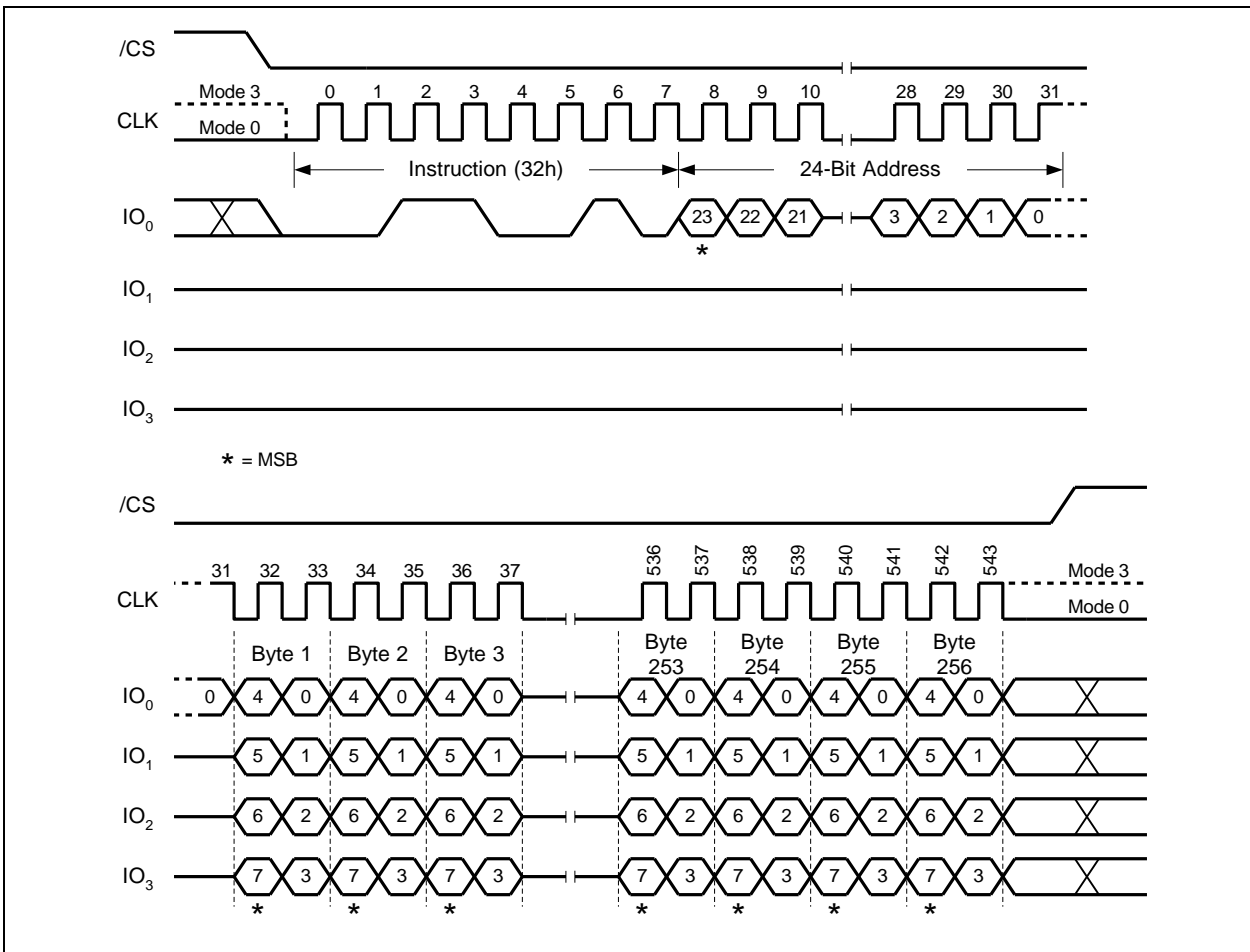

Figure 32. Quad Input Page Program Instruction (SPI Mode only)
To use Quad Page Program the Quad Enable (QE) bit in Status Register-2 must be set to 1. A Write Enable instruction must be executed before the device will accept the Quad Page Program instruction (Status Register-1, WEL=1). The instruction is initiated by driving the /CS pin low then shifting the instruction code "32h" followed by a 24/32-bit address (A23/A31-A0) and at least one data byte, into the IO pins. The /CS pin must be held low for the entire length of the instruction while data is being sent to the device. All other functions of Quad Page Program are identical to standard Page Program. The Quad Page Program instruction sequence is shown in Figure 32.